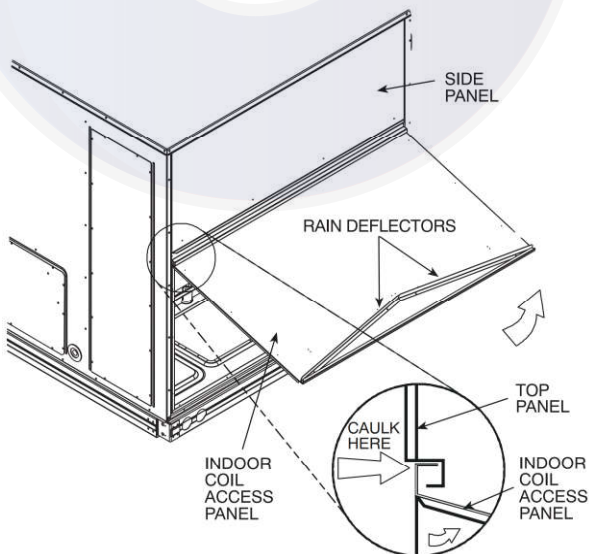

Fig. 21 — Indoor Coil Access Panel Relocation
1. The indoor coil access panel will be used as the top of the hood. If the panel is still attached to the unit, remove the screws along the sides and bottom of the panel. See Fig. 21.
4. Insert the hood divider between the hood sides. See Fig. 21 and 22. Secure hood divider with 3 screws on each hood side. The hood divider is also used as the bottom filter rack for the aluminum filter.
6. Open the filter clips which are located underneath the hood top. Insert the aluminum filters into the bottom filter rack (hood divider). Push the filter into position past the open filter clips. Close the filter clips to lock the filters into place. See Fig. 21.